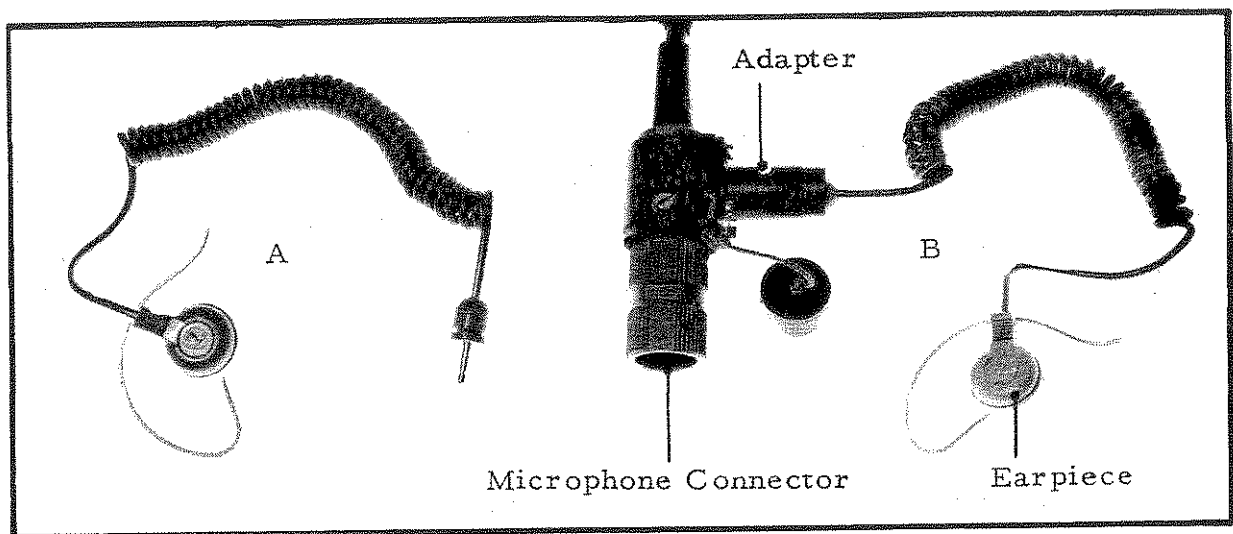

FIG 14
25. Headset, H-F1. (Fig 14). This is a lightweight, plastic encapsulated single ear-piece unit which fits into the ear of the operator. It includes an integral cable and connector which plugs into an adapter on the microphone connector.